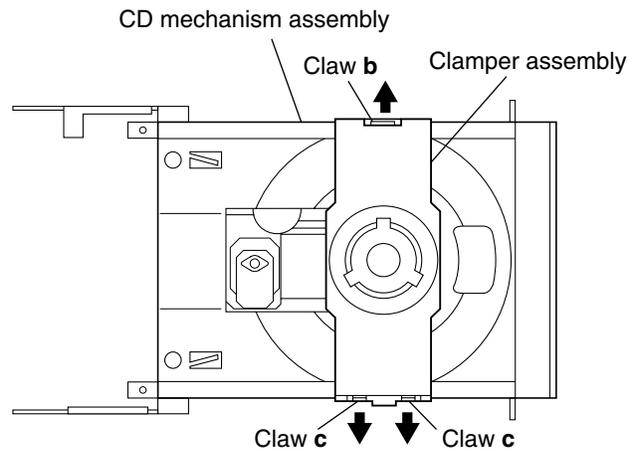

Fig.4
(See Figs. 4 to 7.)
1. From the top side of the CD mechanism assembly, open up the claws **b** and **c** at the left and right of the clamber assembly and lift the assembly to remove it. (See Fig.4.)
1. Remove the left and right side plates. (See Figs.4 to 7 of "Main body section" on page 1-7.)